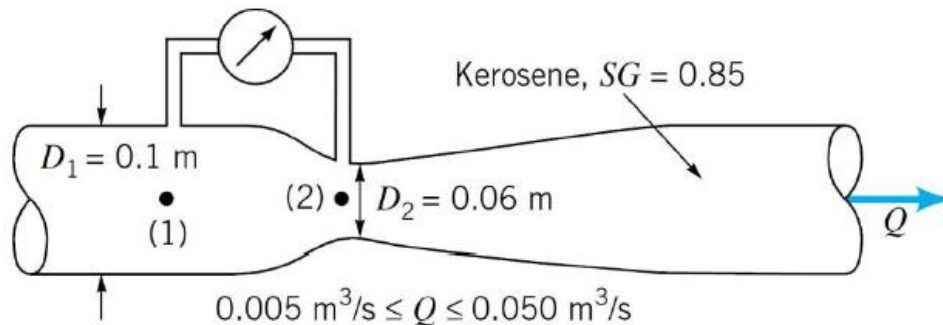

Figure 4
- 5- Kerosene ($SG = 0.85$) flows through the venturi meter shown in figure 4 with flow rates between 0.005 and $0.050 \text{ m}^3/\text{s}$. determine the range in pressure difference, $P_1 - P_2$ needed to measure these flow rates.